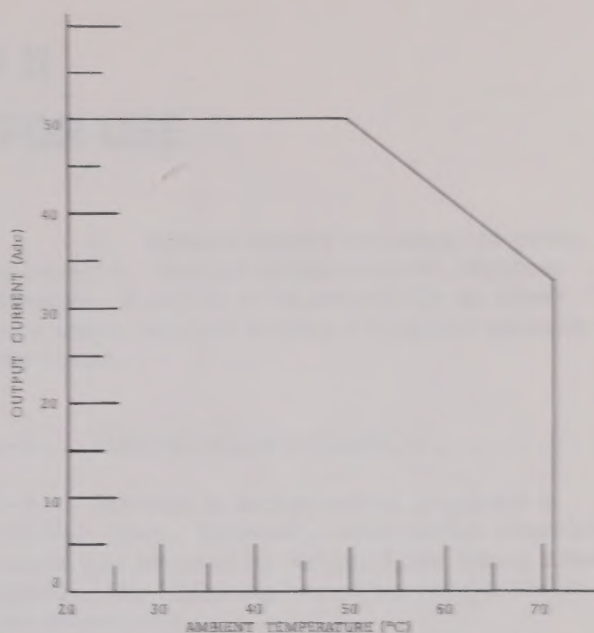

Figure 1-1. Current Derating Characteristics
(1) At nominal input and full rated output. (2) See Figure 1-1 for derating characteristics. (3) Whichever is greater. (4) For a step-load change from NL to FL, or FL to NL, and recovery to within $\pm$ 10 mV band.	(5) Derate each unit to 90% of maximum current. Refer to para 3-21 for a discussion about the number of units which may be paralleled. (6) Meets Mil-I-26600, Mil-I-6181, Mil-I-16910.
current-limit operation is represented by a sharp "knee", and therefore, the current-limit setting need not be compensated for this effect. However, the current-limit set point is affected by changes in ambient temperature. This effect is due to the current-limit circuit temperature coefficient, which is typically about $\pm 0.2\%/^{\circ}\text{C}$. It may be compensated for by setting the trip point X % higher than the desired limit value, where X is $\Delta T (0.2)$. As an illustration, suppose that the ambient temperature changes from 25° to 35°C . ΔT , in this case, is 10. Multiplying by 0.2 gives 2 as the value of X. Therefore, for this example, the trip point should be set 2% higher than that desired. Another factor to be considered pertains to the unit-derating characteristics. Figure 1-1 shows that the rated current output decreases with ambient temperatures in the 50 to 71°C range. Now if a current-limit set point is selected which is not compatible with the rated output, little protection will be given. As an example, if limit setting is 50A and the unit is operated in a 71°C ambient, there will be a 17-A difference between the maximum rated output and the limit setting.